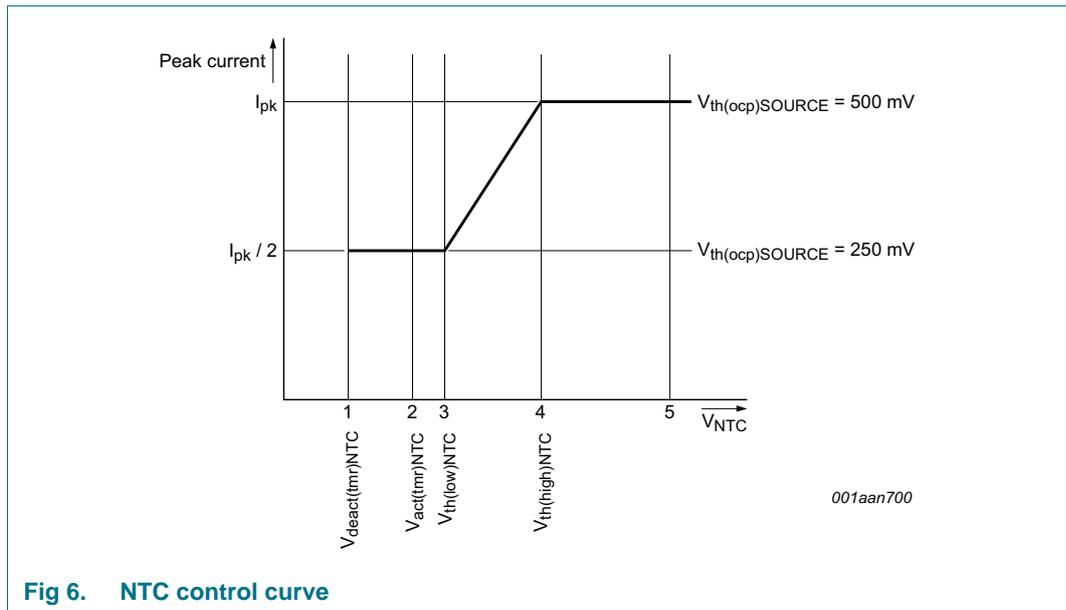

Fig 6. NTC control curve
The NTC pin can be used as a control method for LED thermal protection. Alternatively, the pin can be used as an input to disable/enable light output using a digital signal (PWM current regulation). The pin has an internal current source that generates the $I_{offset(NTC)}$ current. To monitor the LED temperature, an NTC resistor can be connected directly to the NTC pin. Depending on the resistance value and the corresponding voltage on the NTC pin, the converter reacts as shown in Figure 6.
When the voltage on the NTC pin exceeds $V_{th(high)NTC}$ (see Figure 6 (4)), the converter delivers nominal output current. When the voltage is lower than this level, the peak current is gradually reduced until $V_{th(low)NTC}$ is reached (see Figure 6 (3)). The peak current is now half the peak current of nominal operation. When $V_{act(tmr)NTC}$ is passed (see Figure 6 (2)), a timer starts to run to distinguish between the following situations:
- If the low-level $V_{deact(tmr)NTC}$ is not reached within time $t_{to(deact)NTC}$ (see Figure 6 (1)), LED overtemperature is detected. The IC stops switching and attempts to restart from the HV pin voltage. Restart takes place when the voltage on the NTC pin is higher than $V_{th(low)NTC}$ (see Figure 6 (4)). It is assumed that the reduction in peak current does not result in a lower NTC temperature and LED OTP is activated.
- If the low-level $V_{deact(tmr)NTC}$ is reached within the time $t_{to(deact)NTC}$ (see Figure 6 (1)), it is assumed that the pin is pulled down externally. The internal current source $I_{offset(NTC)}$ is switched off in this mode. The restart function is not triggered. Instead, the output current is reduced to zero. PWM current regulation can be implemented this way. The output current rises again when the voltage applied on the NTC pin is higher than $V_{th(low)NTC}$.